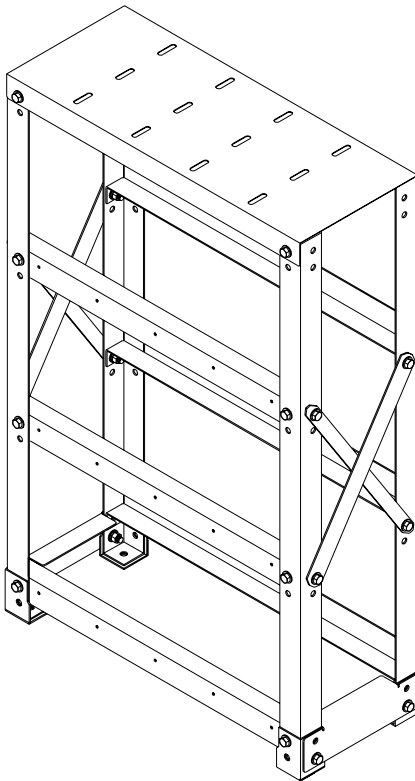

Figure 8.4a
- Install the lower tier side supports per Figure 8.4a.